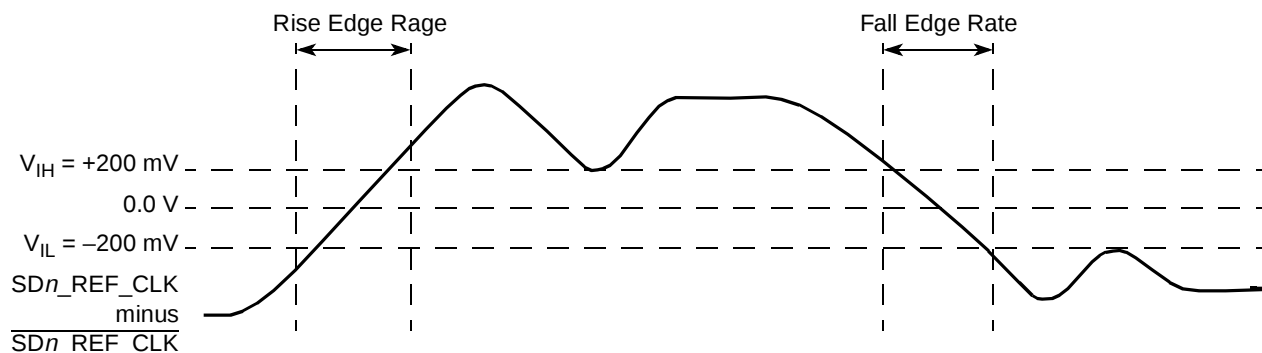

Figure 49. Differential Measurement Points for Rise and Fall Time
3. Measured from -200 mV to +200 mV on the differential waveform (derived from $\overline{SDn_REF_CLK}$ minus $\overline{SDn_REF_CLK}$). The signal must be monotonic through the measurement region for rise and fall time. The 400 mV measurement window is centered on the differential zero crossing. See Figure 49.